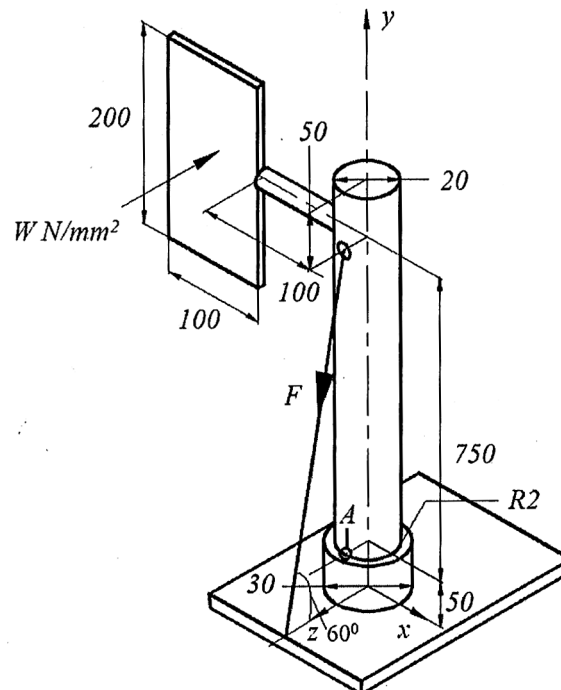

Figure Q9
9. Figure Q9 (dimensions are not to scale and all the dimensions are in mm) shows a vertical post with circular cross-section (diameter 20 mm and the larger diameter near the base is 30 mm). There is a circular rod (can be considered as rigid and unlikely to fail) that projects horizontally near the top end of the post and carries an advertising board. Maximum pressure applied on the board by wind is 0.0125 N/mm². There is also a wire (attached from near the top